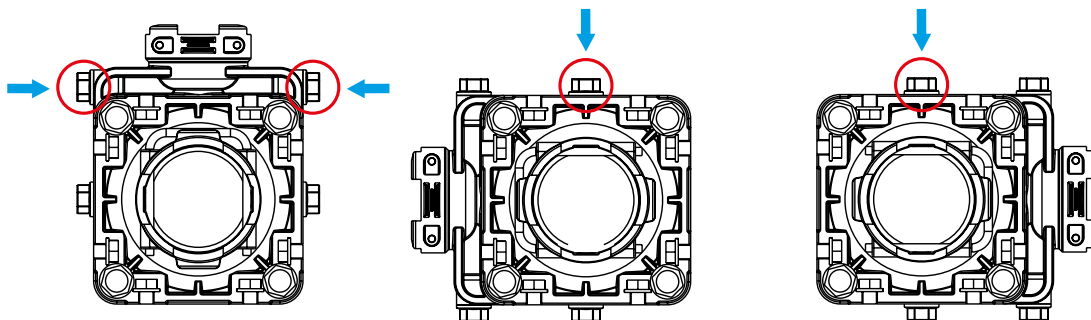

Fig. 9
- Choose the plug located in the highest point according to the installation position of the pump (Fig. 9) in order to eliminate any air trapped in the pump and to allow a minimum motion of the liquid also when the control unit connected to the pump is not spraying.